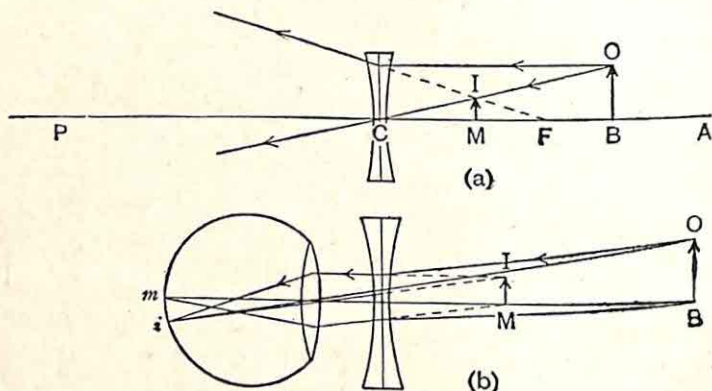

FIG. 94.
Fig. 94 (a) illustrates how the properties of rays are used to determine the position of the image which is shown at IM. The diagram takes the same form whatever the distance, CB, of the object from the lens, so that we may state that the image is always (1) erect, (2) virtual, (3) situated between the optic
centre and the principal focus, and (4) smaller than the object. The accompanying diagram, Fig. 94 (b), shows how this image is viewed by the eye.